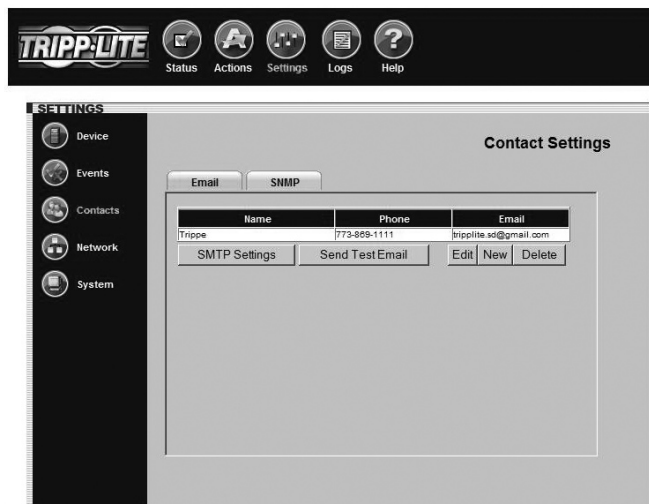

Figure 3-14: Settings > Contacts > Email Tab
- **“Contact Notification”**—Sends an e-mail to an e-mail address(es) in your contact list. (Requires an e-mail contact to be set. See Figure 3-14 Settings > Contacts.)
The “Email” tab (Figure 3-14) shows a table of e-mail contacts. Before your SNMPWEBCARD can send e-mail notifications, you must enter e-mail server information and add at least one e-mail contact. Click the “SMTP Settings” button to enter the settings for your mail server. If you do not know the correct settings, contact your network administrator. Add a new email contact by clicking the “New” button and entering the information requested, and save. Test your settings by highlighting/selecting an email contact, then click the “Send Test Email” button.